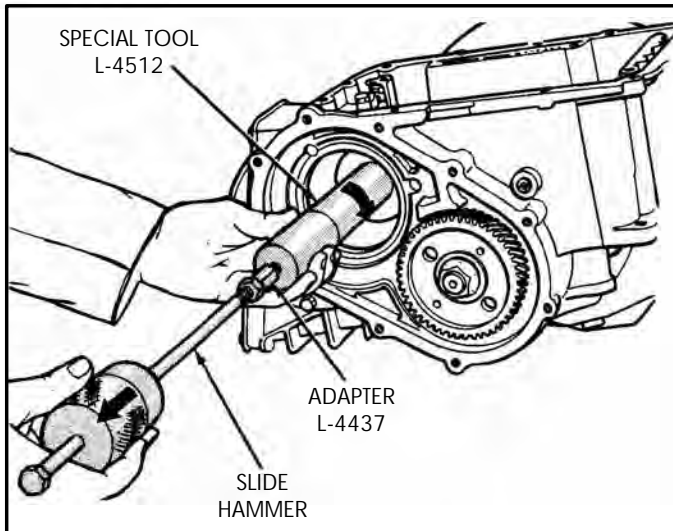

Figure 126
11. Install the special tool L-4512 over the transfer shaft, as shown in Figure 126, and attach slide hammer using adapter L-4437.